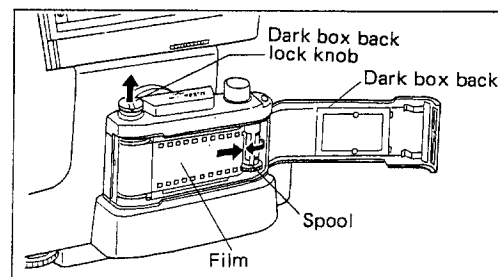

Fig. 45
- ① Pull up the dark box back lock knob and open the back.
- ② Put the film cassette into the dark box and push down the knob.
- ③ Insert the film leader tip into the slot on the spool which is to be rotated a little so as its protrusions catch the perforations of film. (Fig. 45) The film is to be wound the emulsion side out.